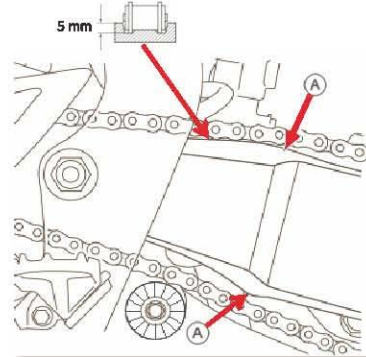

Fig. 1
1. Check the swing-arm chain slider **A** for wear and/or damage. Fig. 1